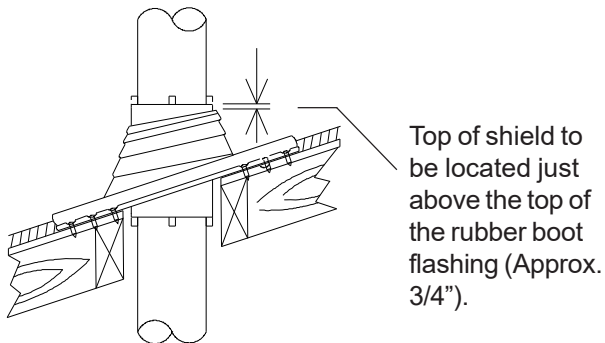

Fig 5
5. Trim opening of the Rubber Boot Flashing (item 6) to the proper diameter to fit the Shield. Use the Rubber Boot Flashing as a guide to position the top of the Shield. Locate top of the Shield slightly above (approx. 3/4") the top of the Rubber Boot Flashing (Figure 5).